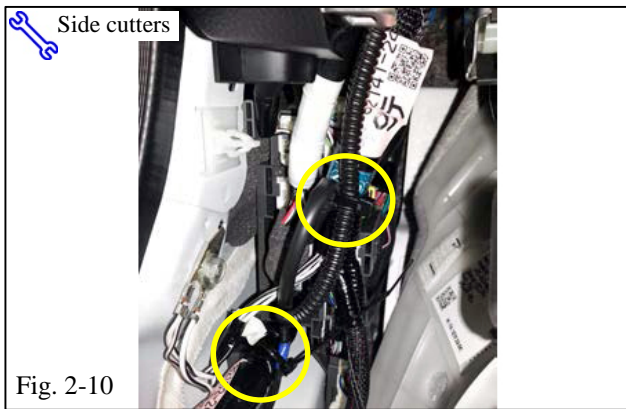

Fig. 2-10
(i) Route the wire above the hood latch cable (see Fig. 2-10) and connect the blue wire from the door sill to the foot lamp with a Scotchlok (Fig. 2-8).
- (m) Route the door sill wire harness down along the OE wire harness and secure it with two wire ties (Fig. 2-10).